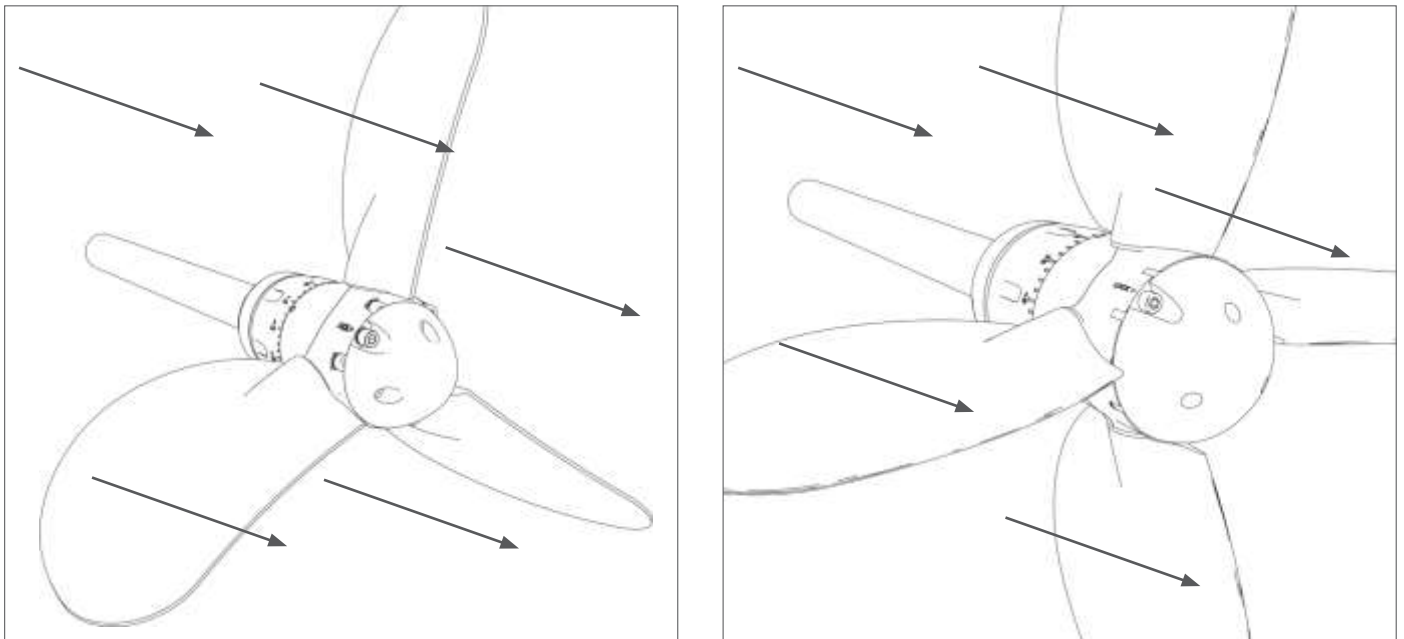

FIG. 28 Water flow
- The blades will now automatically move to feathering position, with minimum resistance to movement (**Fig. 28**).